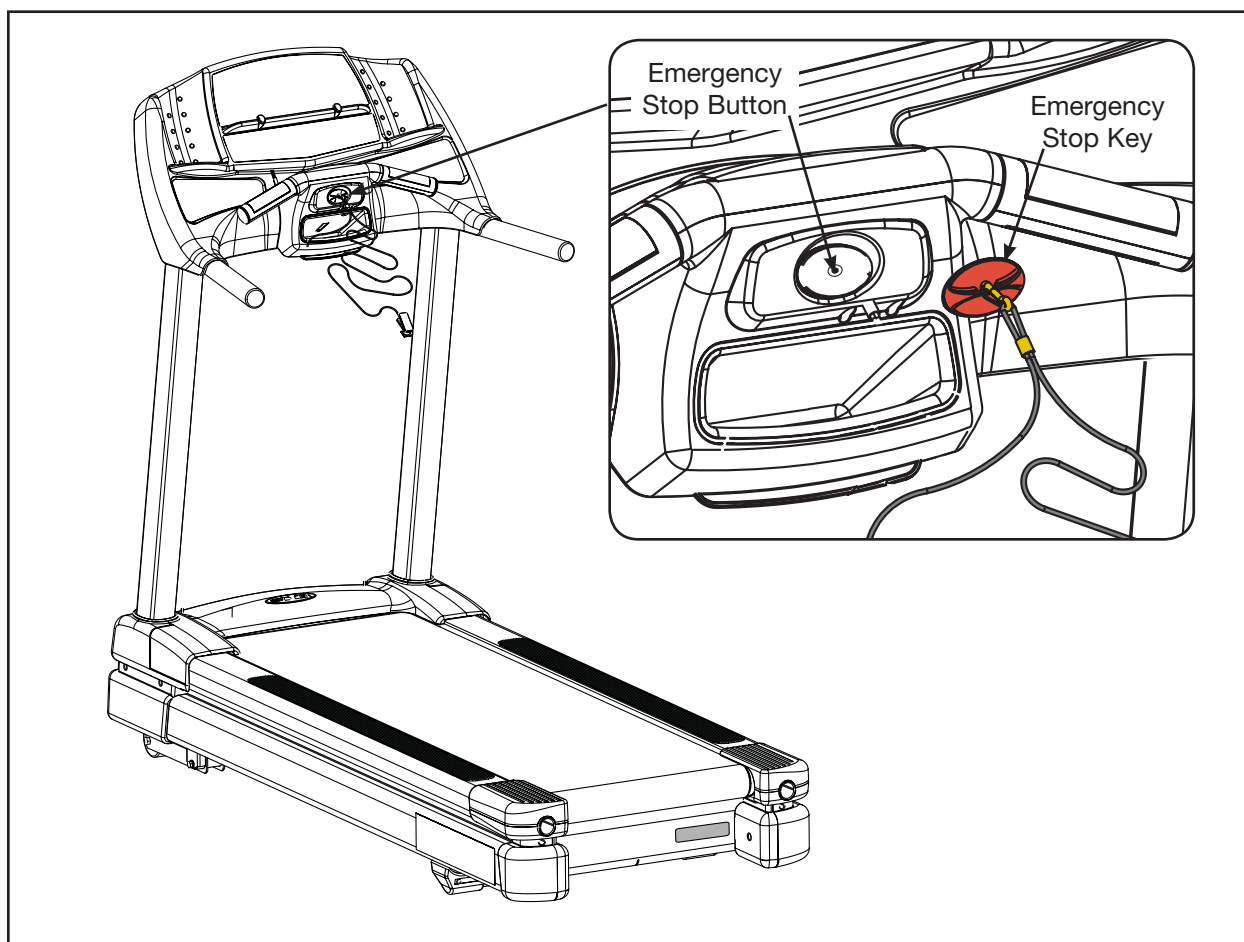

Figure 12
- A. Confirm that the emergency stop key is in place over the e-stop button. See Figure 12.